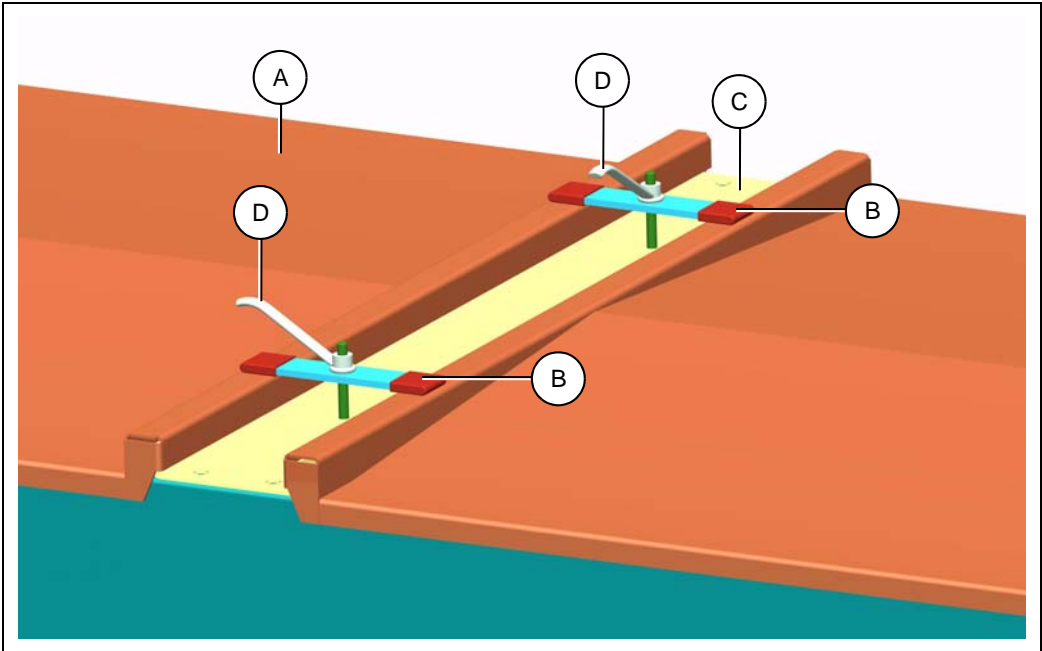

Figure 4B
- 1. Intermediate sections bolt together along the side and bottom flanges. The covers are fastened to the cover channels by flat clips and easy grip handles. (See Figure 4B.)